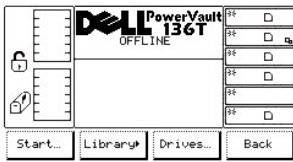

Figure 84. Main Menu > More > Service Menu
- 1 The Service Menu appears. This menu offers four selections. See Figure 84.
- 1 If the button beneath the **OK** softkey is pressed, the Service Menu is displayed. Refer to Figure 84.